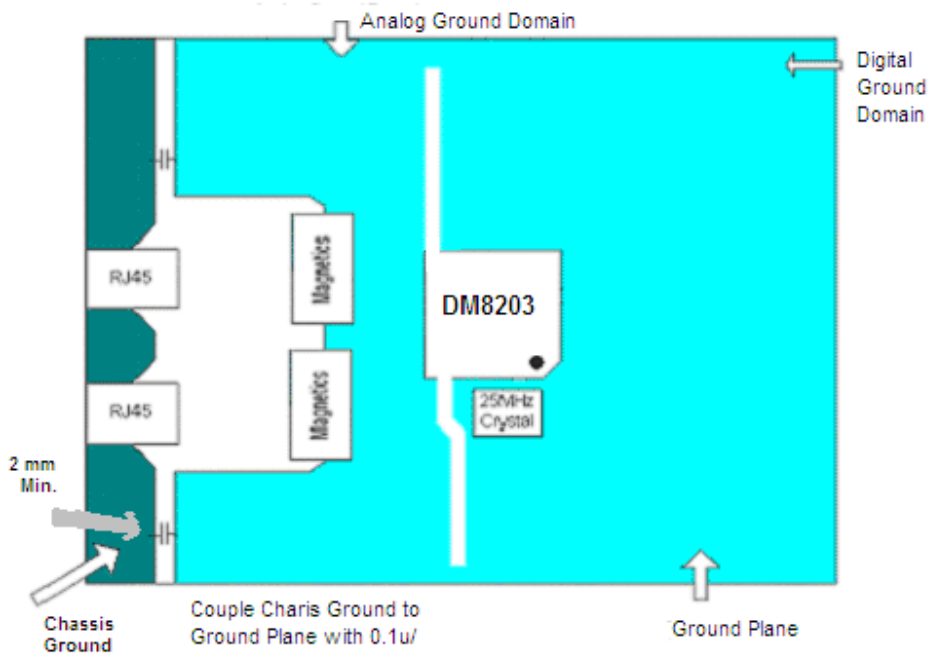

Fig.4-1 Ground plane separation for DM8203
- The ground plane needs to be divided into analog ground domain and digital ground domain, The connection of these two domain should be far away from the AGND pins of DM8203 (see **Fig. 4-1**).